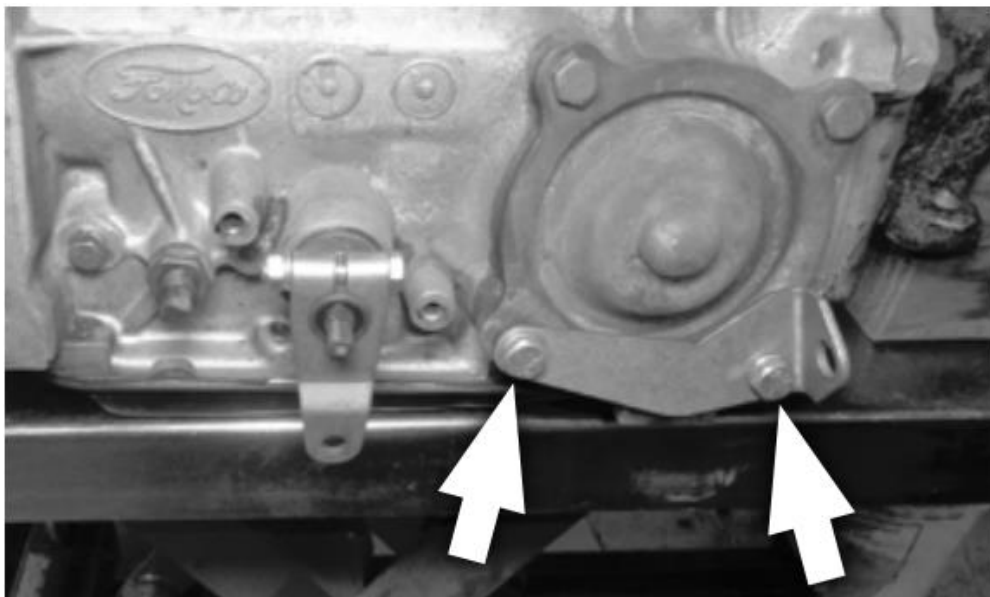

Figure 19
- a. C4/C5:** install the cable bracket onto the two lower servo cover bolt holes, using the two 5/16"-18 x 1.0" bolts, spacers and spring washers (figure 19). Tighten the bolts to 12 ft-lbs (16 Nm).